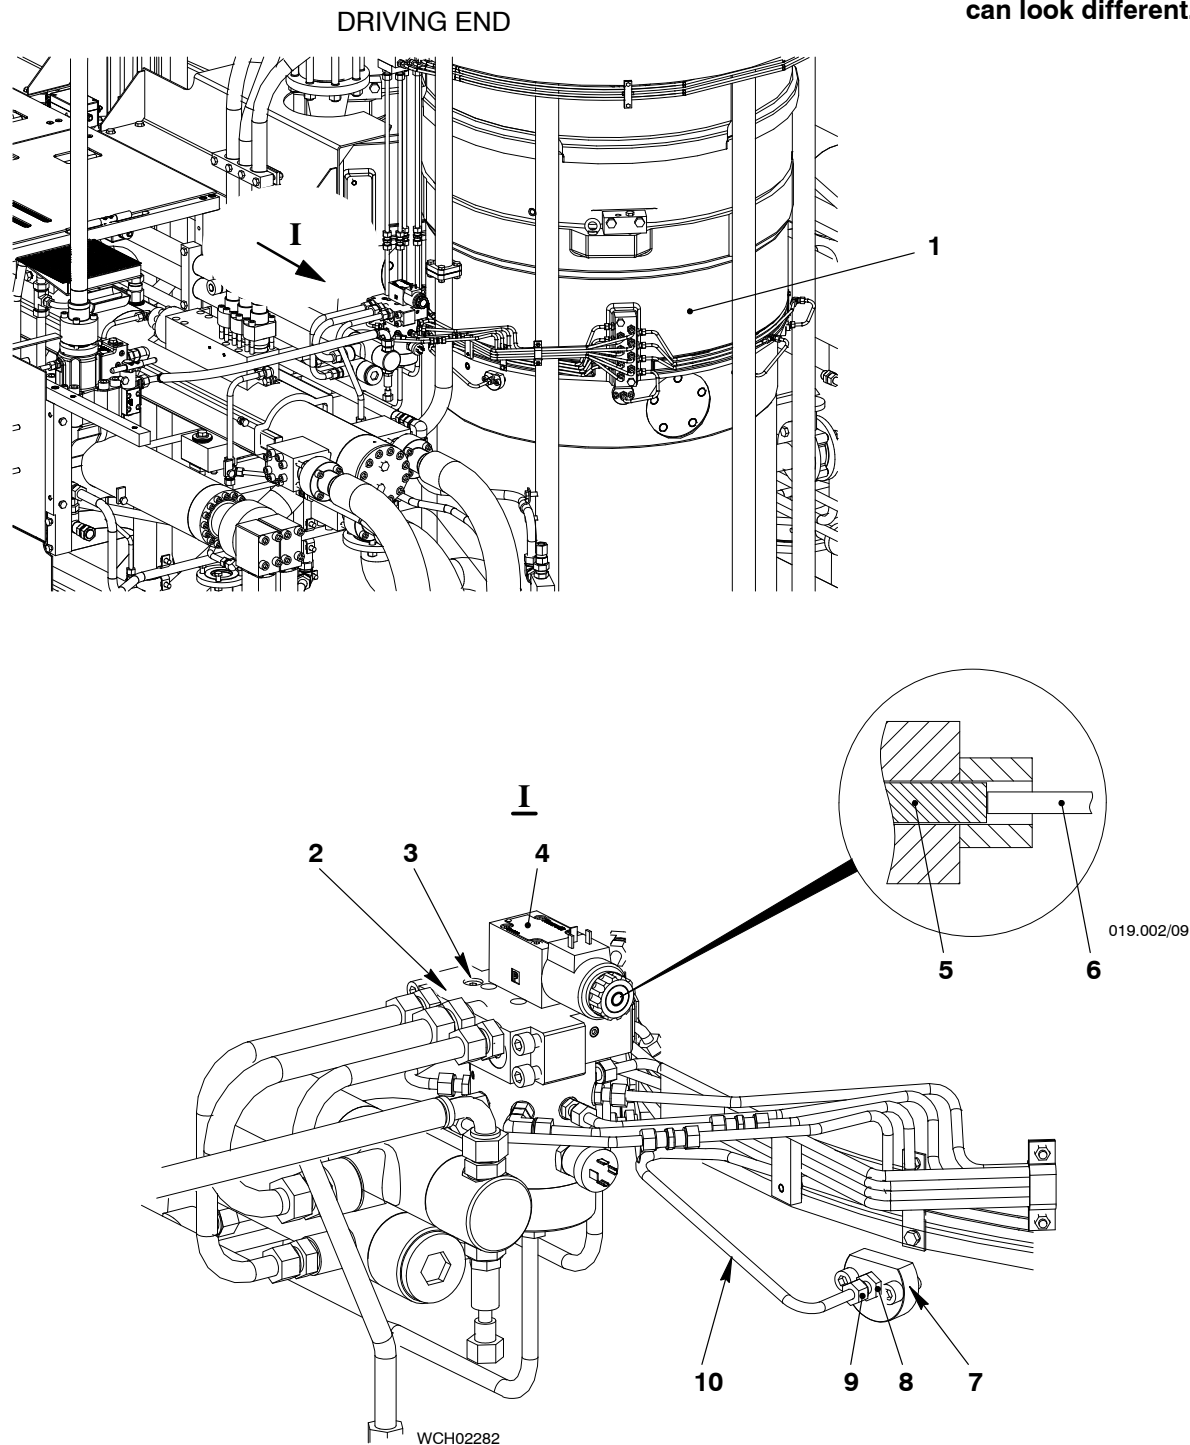

Fig. 1: Cylinder Lubrication Pump – Location
**Note:** You can operate the 4/2-way solenoid valve (4, Fig. 1) to release manually one lube pulse.
- a) Use a pin or a screwdriver (6, Fig. 1) to push in the plunger (5) of the 4/2-way valve (4).
- 7) Make sure that the oil that flows has no air. If necessary, bleed the cylinder lubricating pump (2) and the oil pipes (10) (refer to paragraph 3).
To bleed the cylinder lubrication pump (2, Fig. 1), do the steps that follow: